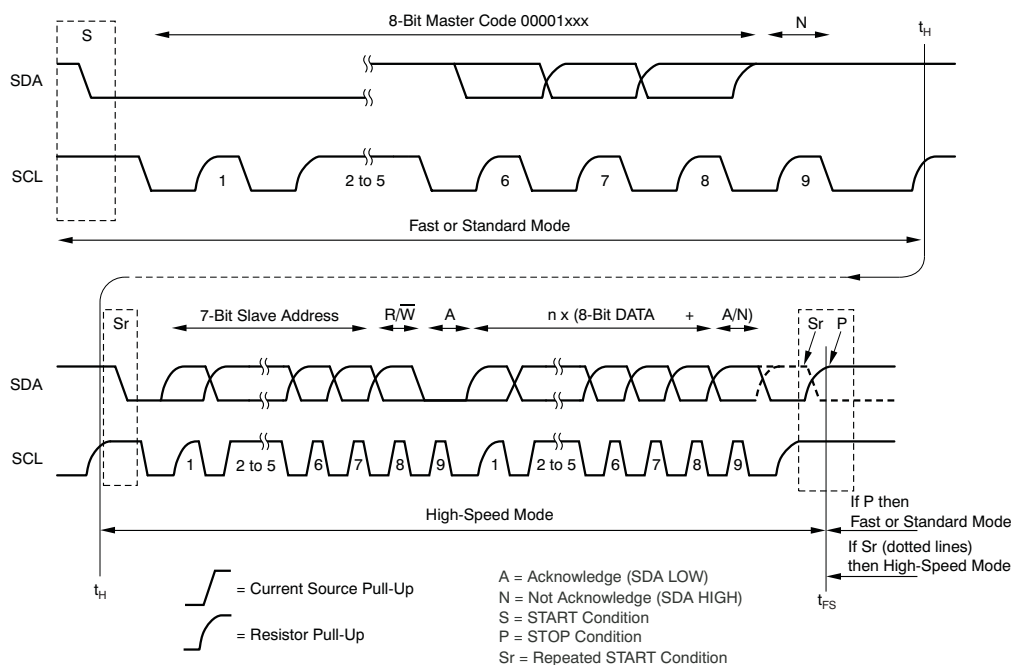

Figure 30. Complete High-Speed Mode Transfer
When the bus master sends the address byte with the $\overline{\text{R}/\text{W}}$ bit = 0, and the TSC2007 sends an acknowledge, the pen-interrupt function is disabled. If the command that follows the address byte contains $\text{PD0} = 0$, then the pen-interrupt function is enabled at the end of a conversion. This action is approximately 100 μs (12-bit mode) or 50 μs (8-bit mode) after the TSC2007 receives a STOP/START condition, following the receipt of a command byte (see Figure 31 and Figure 30 for further details about when the conversion cycle begins).
1. START condition (S)
3. Not-acknowledge bit (N)
Figure 30 shows this sequence in more detail. Hs-mode master codes are reserved 8-bit codes used only for triggering Hs mode, and are not to be used for slave addressing or any other purpose. The master code indicates to other devices that an Hs-mode transfer is about to begin and the connected devices must meet the Hs mode specification. Because no device is allowed to acknowledge the master code, the master code is followed by a not-acknowledge bit (N).
After the not-acknowledge bit (N) and SCL have been pulled-up to a HIGH level, the master switches to Hs-mode and enables the current-source pull-up circuit for SCL (at time t_H shown in Figure 30). Because other devices can delay the serial transfer before t_H by stretching the LOW period of SCL, the master enables the current-source pull-up circuit when all devices have released SCL, and SCL has reached a HIGH level, thus speeding up the last part of the rise time of the SCL.